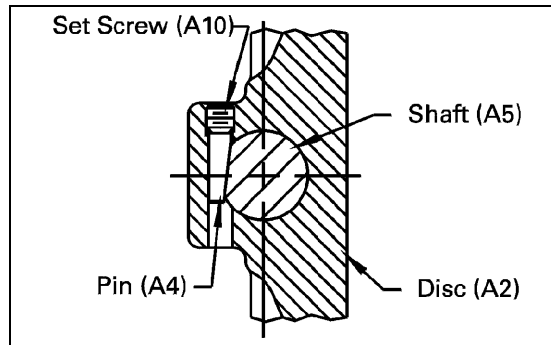
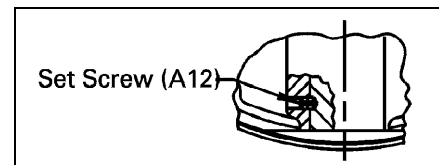

Figure 5—Disc-to-Shaft Connection on 14–20"
Figure 6—Lower Set Screw Detail 18" & 20"
- On sizes 14–16", align and center the flat on the shaft with the tapped hole in the disc. Insert the pin (A4) into the mating hole in the disc (A2) so that the flat on the pin is centered on the flat on the shaft. Tap the pin firmly into position with a hammer and punch until the hammer bounces back when the pin is struck. Apply one bead of Loctite 243 to the threads of set screw (A10) and one bead along half the depth of the threads in the tapped hole above the pin. Tighten the set screw to 75±5 ft. lbs. See Figure 5.
- On sizes 18 and 20", align and center the flat on the shaft with the tapped hole in the disc. Insert the pin (A4) into the mating hole in the disc (A2) so that the flat on the pin is centered on the flat on the shaft. Tap the pin firmly into position with a hammer and punch until the hammer bounces back when the pin is struck. Apply one bead of Loctite 243 to the threads of the set screw (A10) and one bead along half the depth of the threads in the tapped hole above the pin. Tighten the set screw to 125 ± 5 ft. lbs. See Figure 5. Apply one bead of Loctite 243 to the threads of set screw (A12) and one bead along half the depth of the threads in the threaded hole near the bottom of the disc (A2). Thread the set screw into the disc and into the blind hole in the lower shaft (A11) and tighten to 13 ± 2 ft. lbs. See Figure 6.